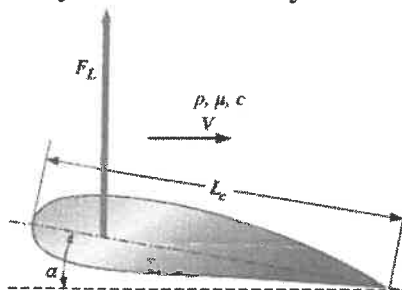

Figure 1
- Q.1 Some aeronautical engineers are designing an airplane and wish to predict the lift produced by their new wing design (Fig. 1). The chord length L_c of the wing is 1.12 m, and its planform area A (area viewed from the top when the wing is at zero angle of attack) is 10.7 m^2 . The prototype is to fly at $V = 52 \text{ m/s}$ close to the ground where $T = 25^\circ\text{C}$. They build a one-tenth scale model of the wing to test in a pressurized wind tunnel. The wind tunnel can be pressurized to a maximum of 5 atm. At what speed and pressure should they run the wind tunnel in order to achieve dynamic similarity? **10**